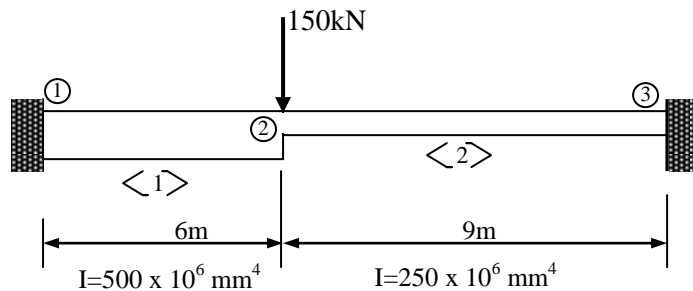

Fig.Q2-1
- (b) Fig.Q2-1 shows a step beam with different moment of inertias in member 1 and 2. Assemble the structure stiffness matrix K_B . Then, calculate the reactions at both supports by using matrix stiffness method.